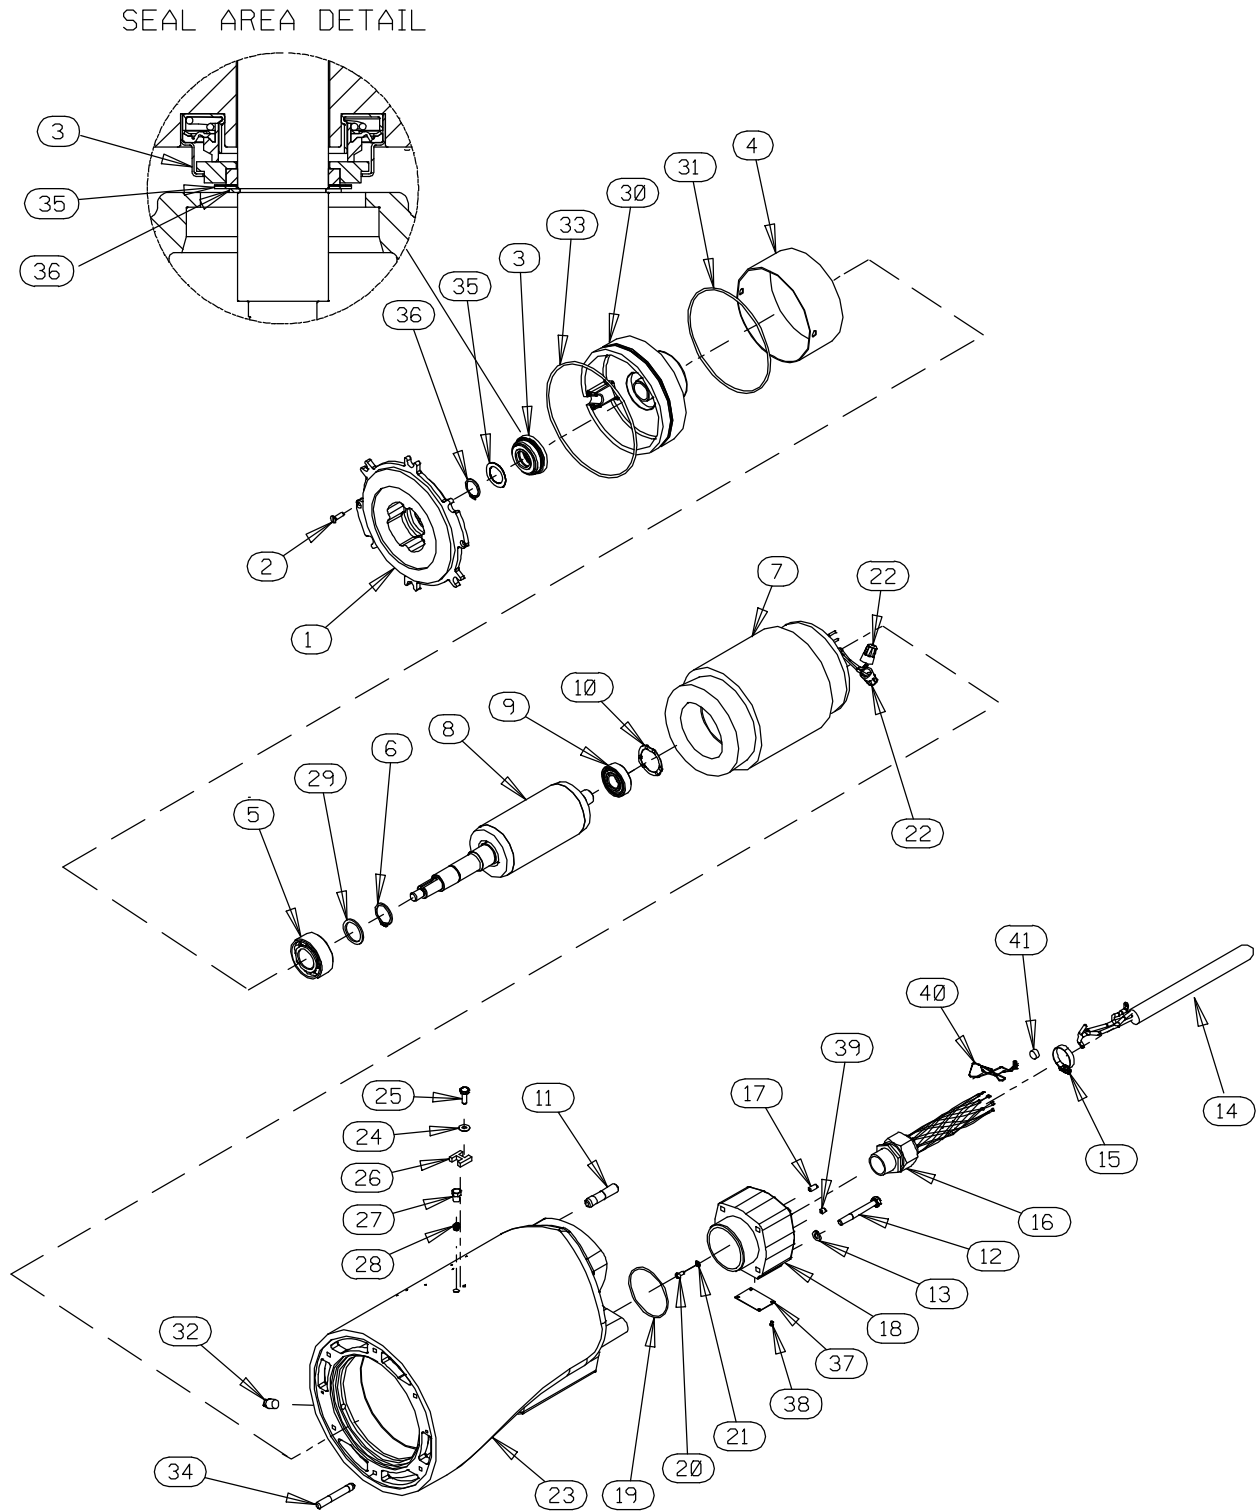

Figure E-2. Submersible Motor Assemblies
With the pump in a vertical position, clean any dirt from around the pipe plug (32, Figure E-2) and remove the plug. Install a short 3/8 inch NPT nipple in the hole. Tip the pump and drain the seal oil into a **clean** container. Inspect the oil for water, dirt, or cloudy condition which could indicate lower seal failure or poor gasket seal.
It is recommended that the pump be positioned upside-down during disassembly. To hold the pump in the inverted position, screw a pipe into the discharge flange (9) and clamp it in a large vise, or remove the discharge flange and secure the flange studs to a bench or work stand. Be careful not to damage the terminal housing (18, Figure E-2) while in this position. Use adequate equipment
Wedge a soft metal rod between the vanes of the impeller (2) and the studs (34, Figure E-2) to prevent shaft rotation. Remove the impeller nut (15) and washer (17). Remove the metal rod used to prevent shaft rotation.
(Figures E-2 and E-3)